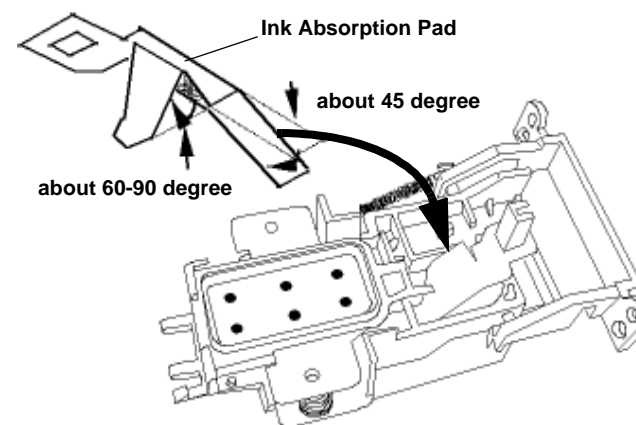

Figure 4-15. Setting the Ink Absorption Pad
- When assembling the Cap Assembly to the Ink System Assembly, make sure that the Ink absorption Pad has been set into the Cap Assembly. Refer to the Figure 4-15.